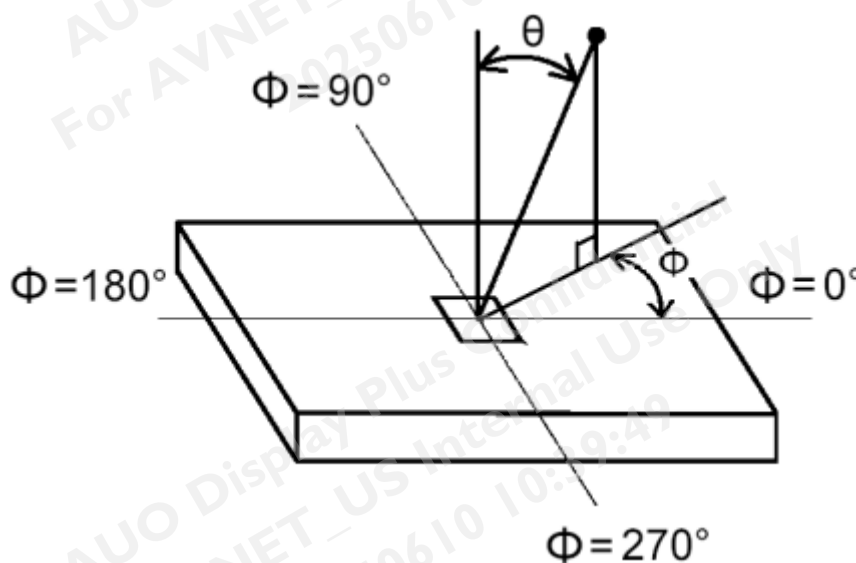

Fig. 4 Viewing Angle
5. Viewing angle is the angle at which the contrast ratio is greater than 10. The angles are determined for the horizontal or x axis and the vertical or y axis with respect to the z axis which is normal to the LCD surface. For more information see Fig. 4.